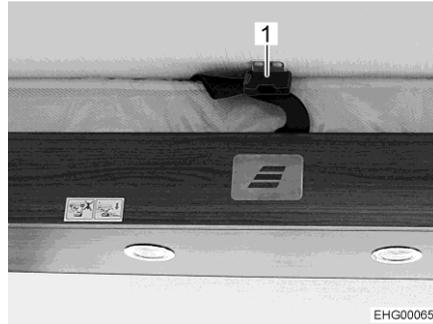

Fig. 91 Retaining belt
- Release the retaining belt (Fig. 91,1).
- Close retaining belt (Fig. 91,1).